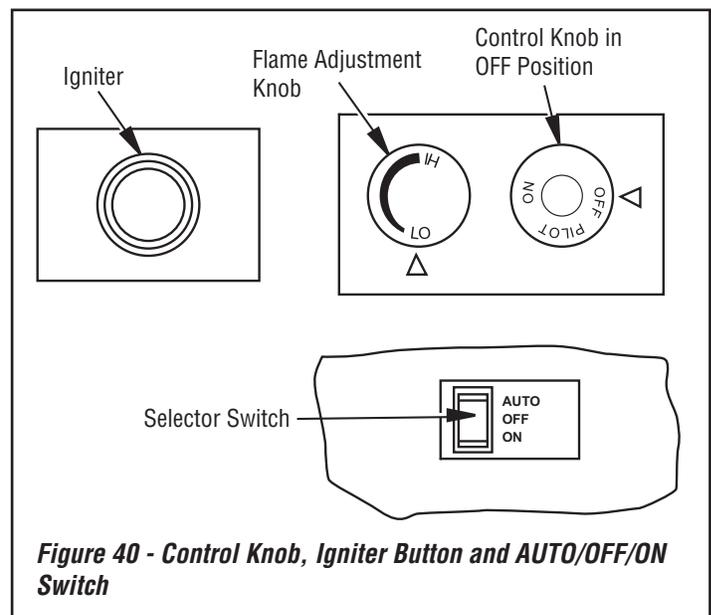

Figure 40 - Control Knob, Igniter Button and AUTO/OFF/ON Switch
- Press in and turn control knob clockwise  to the OFF position (see **Figure 40**).
- Wait five (5) minutes to clear out any gas. Then smell for gas, including near the floor. If you smell gas, STOP! Follow "B" in the safety information, column 1. If you don't smell gas, go to the next step.
- Press in and turn control knob counterclockwise  to the PILOT position. Press in control knob for five (5) seconds (see **Figure 40**).